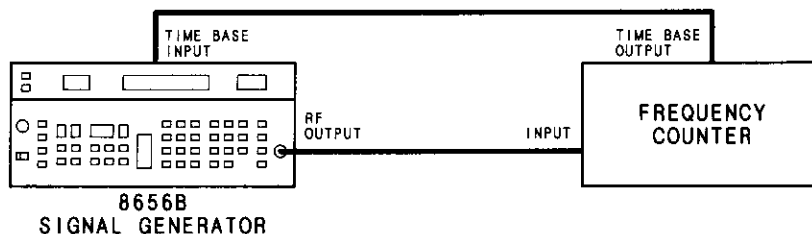

Figure 5-25. DC FM Frequency Offset Adjustment Setup
3. Connect the Signal Generator RF OUTPUT to the frequency counter CHANNEL A INPUT and the counter time base OUT to the Signal Generator Time Base INPUT as shown in Figure 5-25.